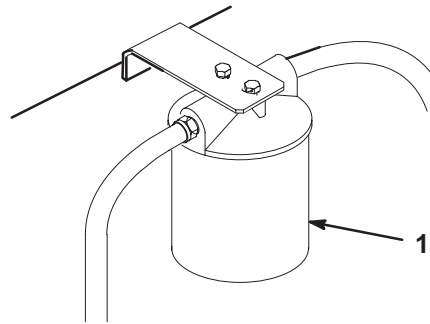

Figure 39
3. Place drain pan under filter, remove the old filter and wipe the filter adapter gasket surface clean (Fig. 39).